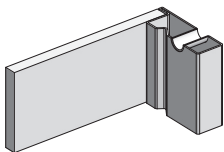

Fig. 8.5
- Transport hole to attach the lifting hook 40, allowing for fast loading and unloading of panel stacks or their relocation at ground or slab level (Fig. 8.5).